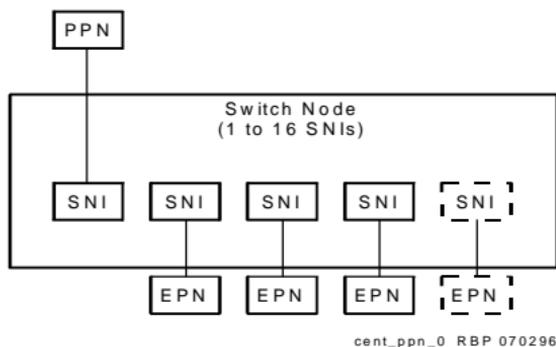

Figure 5. CSS with Switch Nodes (SNs)
Figure 5 shows the Center Stage Switch (CSS) linking the Processor Port Network (PPN) to Expansion Port Networks (EPNs) by the Switch Node Interface (SNI) circuit packs in a Switch Node (SN) carrier. An SN reduces the amount of interconnect cabling between the PPN and the EPNs by acting as a "hub" to distribute cabling.